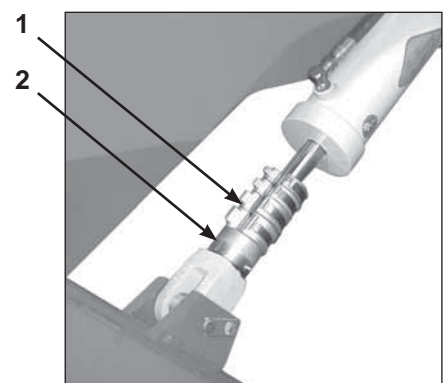

fig 6
The height of the drill when in the drilling position is determined by the number and size of the depth collars (1) and the threaded depth stop (2) on the LH wheel arm cylinder shaft. This in turn determines the pressure on the discs. Refer Fig 6.